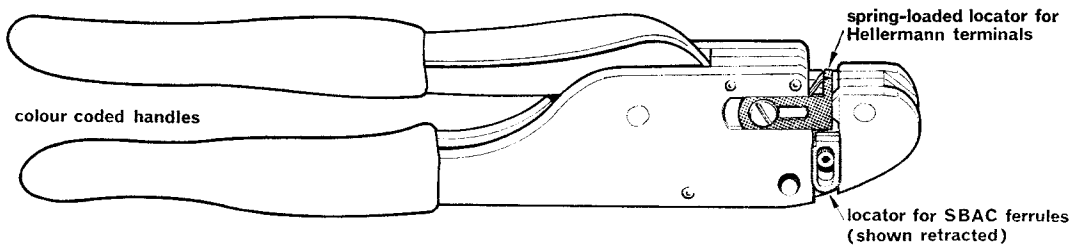

Fig. 14 Hellermann crimping pliers
18. **Hellermann kit.** The kit supplied contains three hand crimping tools (Fig. 14) with colour coded handles for cables from 22/20 AWG (size No 0 colour green), 18/16 AWG (size No 1 colour red), and 14/12 AWG (size No 2 colour blue). Three gauges are also supplied to carry out periodical checks on the tools. The Hellermann compression terminals for use with these tools are of the 'twingrip' type which grip both the conductor and the insulation to form a joint of high mechanical strength. The crimp formed is of an irregular octagon shape and may be either normal or transverse.